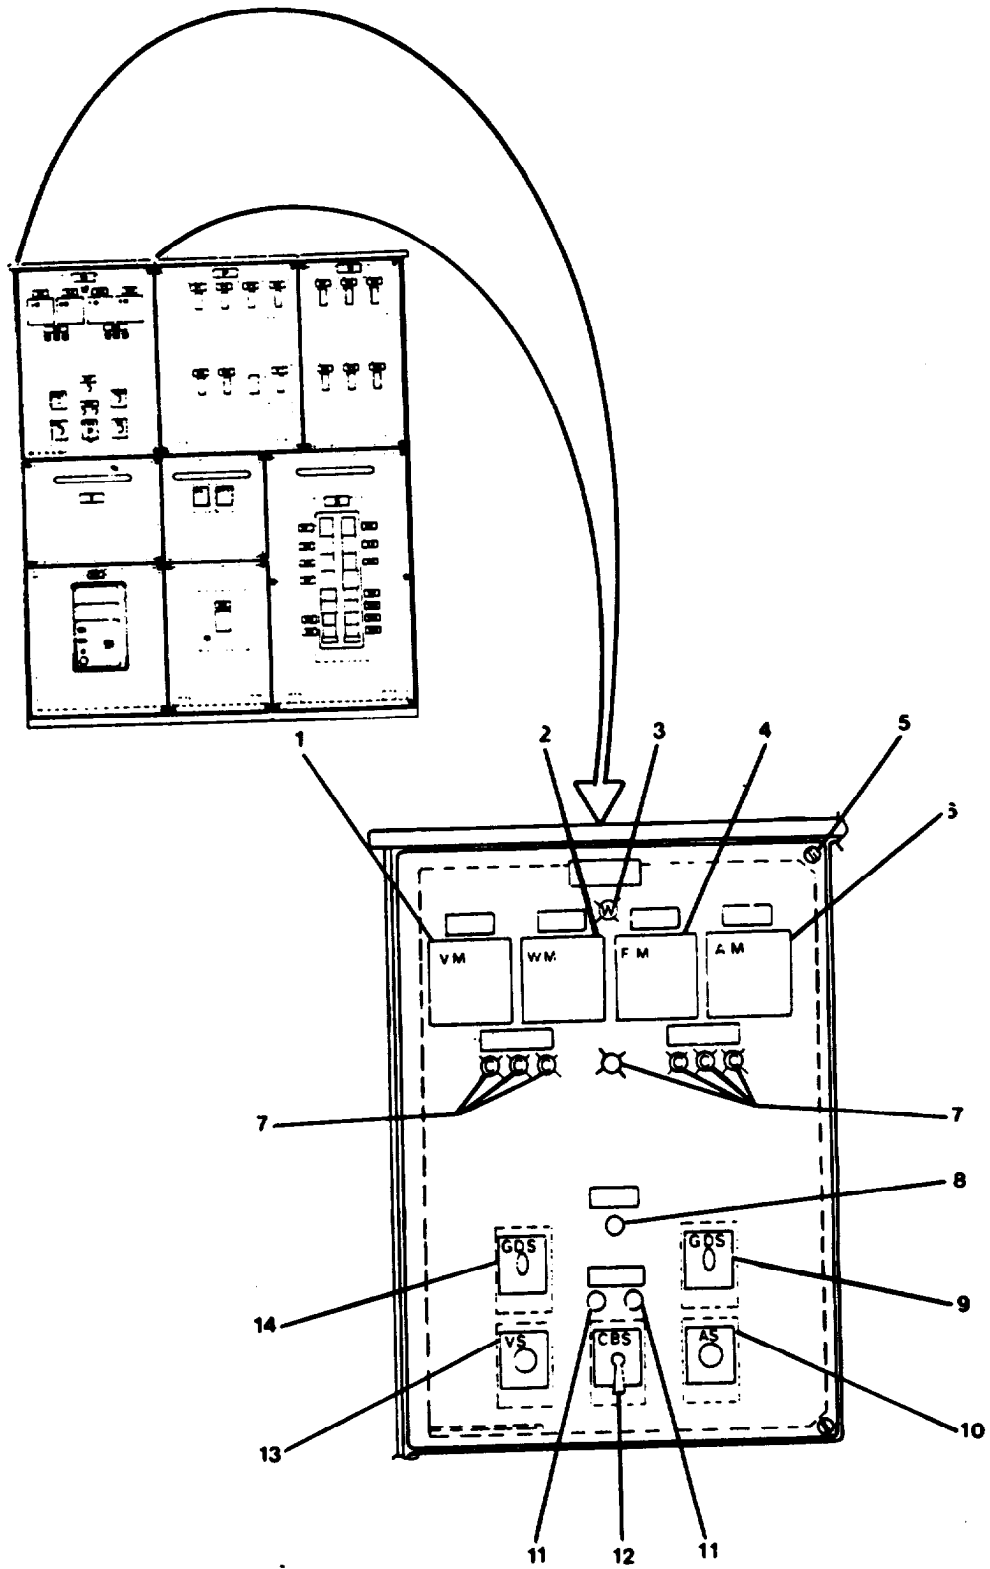

FIGURE 2-219. Emergency Generator Switchboard Top left Panel.
2-298. Repair Emergency Generator Switchboard. (FIGURE 2-219)
Repair to emergency generator switchboard is by replacement meters (1, 2, 4, and 6, FIGURE 2-219), light lenses (3, 7, and 11), rheostat (8), rotary switches (9, 10, 12, 13, and 14), and incandescent lamps.
- a. Set 240 VOLT GROUND TEST (14, FIGURE 2-219) to TEST position.
- b. Three 240V GROUND DETECTION LIGHTS (7) remain lit.